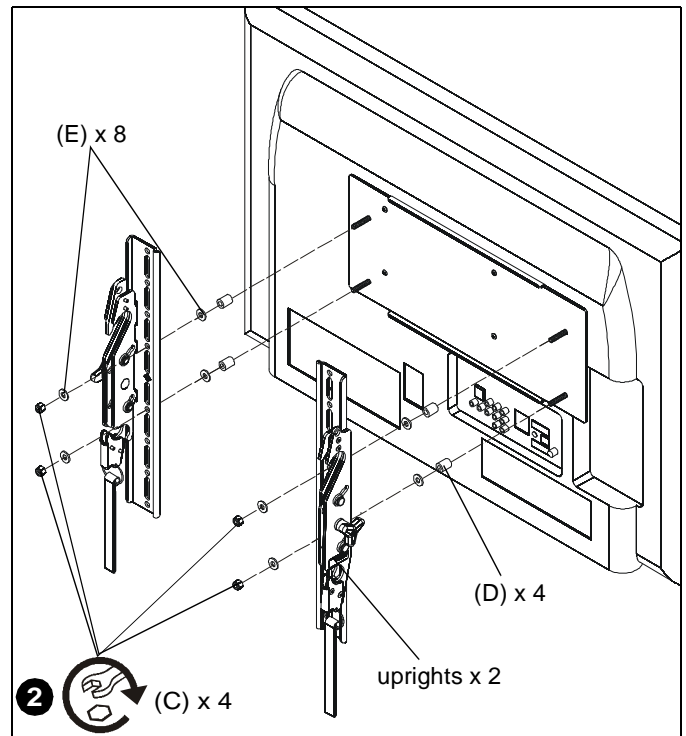

Figure 2
NOTE: Uprights can be installed onto interface bracket through holes that are higher or lower than the example shown in Figure 2.
2. Attach upright brackets to interface bracket (A) using eight 1/4" flat washers, four spacers (D) and four 1/4-20" lock nuts (C). (See Figure 2)